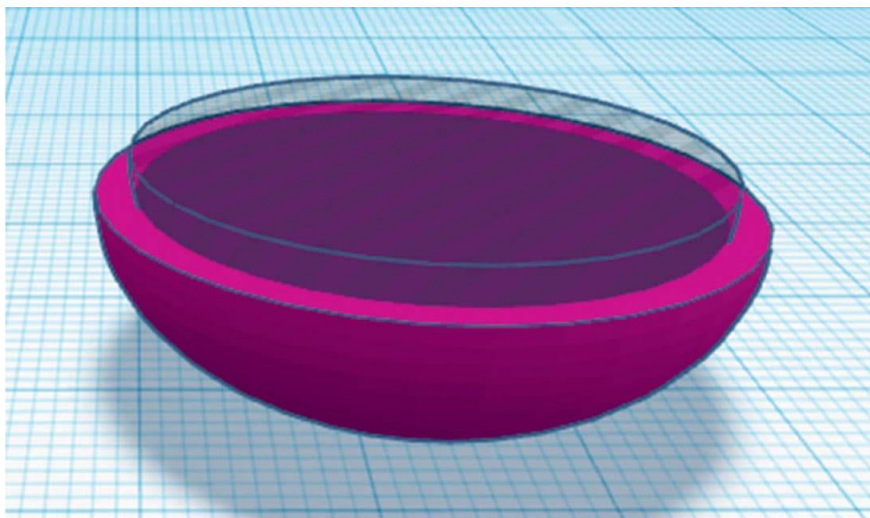

FIG. 2: Overlap the two spheres and rotate so the flat side is facing up.
2. Overlap the two spheres so they are concentric (with the smaller one inside the larger one). We are creating a spoon of wall thickness roughly 1.5 mm. Rotate the overlapping spheres together so the flat side is on top as shown in fig. 2.